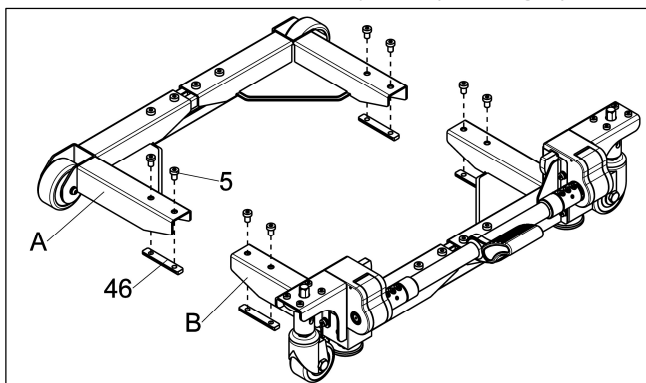

Fig.7
c. Pre-lock the fastener "5" and locking block "46" onto the rear corner bracket assembly "A" and the front corner bracket assembly "B". (see Fig.7)